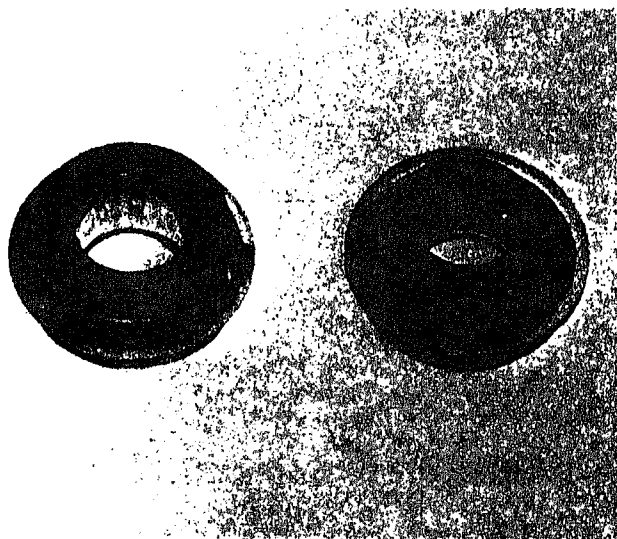

Fig. 8-1-2. Carbon face seals
Examine carbon face seal carefully to make sure it is not cracked or chipped, Fig. 8-1-2. Usually it is best to install new seal.
**Note:** Seals shown in Fig. 8-1-2 are interchangeable.